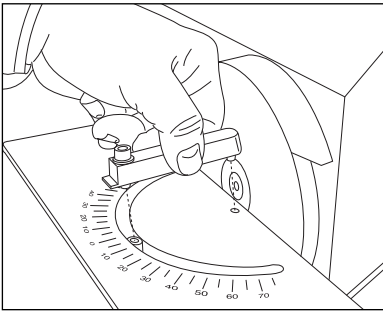

fig. 1
1. Remove protractor guide (fig. 1).